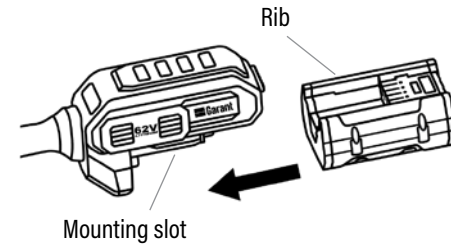

Fig. 6
2. Align the ribs of the battery pack with the mounting slots in the battery port. Insert the battery pack into the battery holder. (Fig. 6)